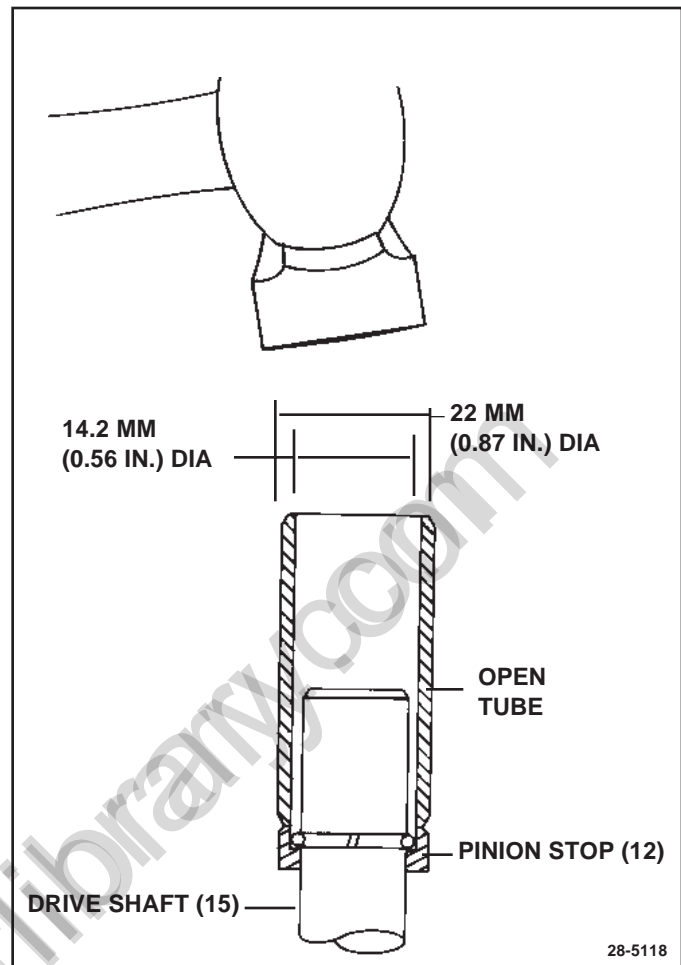

Figure 11. Removing Pinion Stop
1. Stop rings (35) and pinion stop (12).
- Using open tube slightly larger than shaft (see Figure 11), drive pinion stop (12) toward clutch drive assembly (2) until it clears stop rings (35).
- Using care not to scratch drive shaft (15) pry stop rings out of shaft groove and slide off end of shaft.
- Inspect edges of shaft groove for burrs that may have been formed through repeated cranking cycles. Such burrs may make removal of pinion stop and clutch drive assembly (2) difficult. If burrs are found, use a suitable file to carefully remove burrs only - not base metal. Thoroughly clean away metal filings.
- Slide pinion stop (12) off drive shaft (15). Discard old pinion stop (12) and stop rings (35). New parts must be used at assembly.
2. Clutch drive assembly (2) from drive shaft (15).
3. Drive shaft support (17) from drive shaft (15).
- Do not remove bearing (10) from drive shaft (15) unless replacement is required (refer to CLEANING, INSPECTION AND REPAIR).